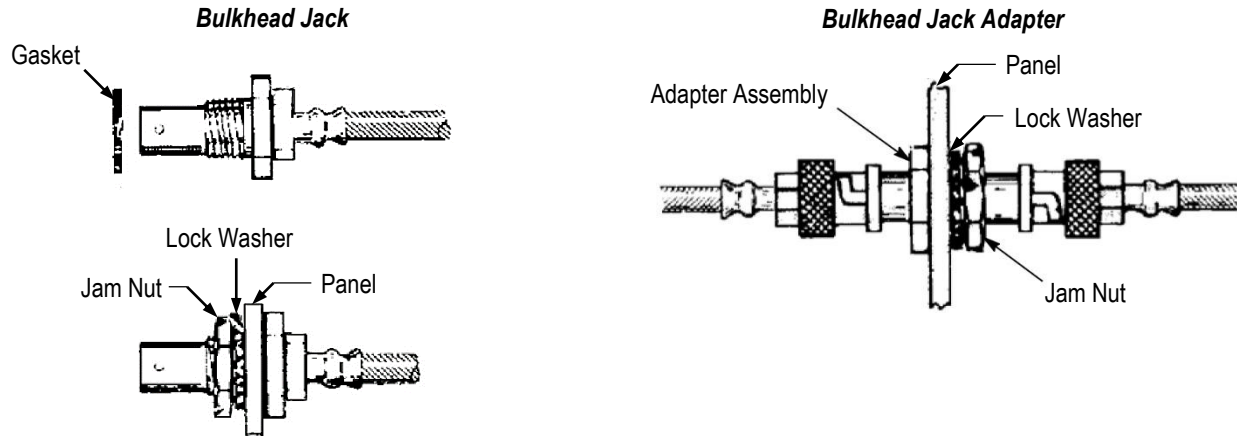

Figure 6
2. Slide the gasket over the body and into the groove. See Figure 6.